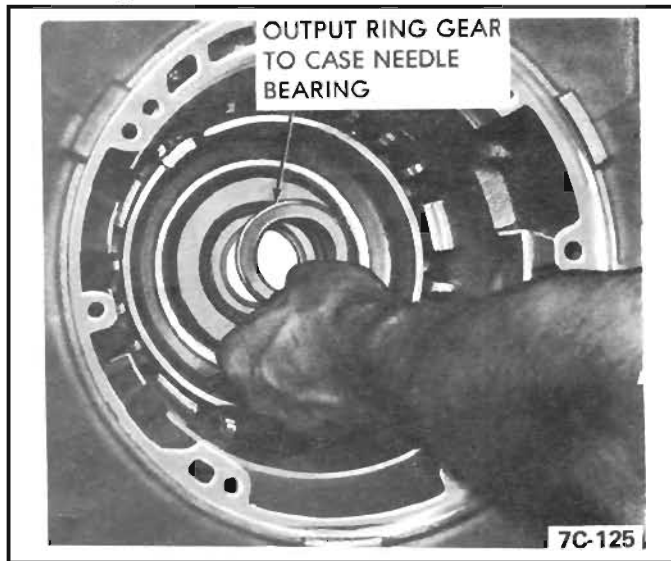

Figure 40 Needle Bearing Removal
4. Remove output ring gear to case needle bearing. *See Figure 40.*